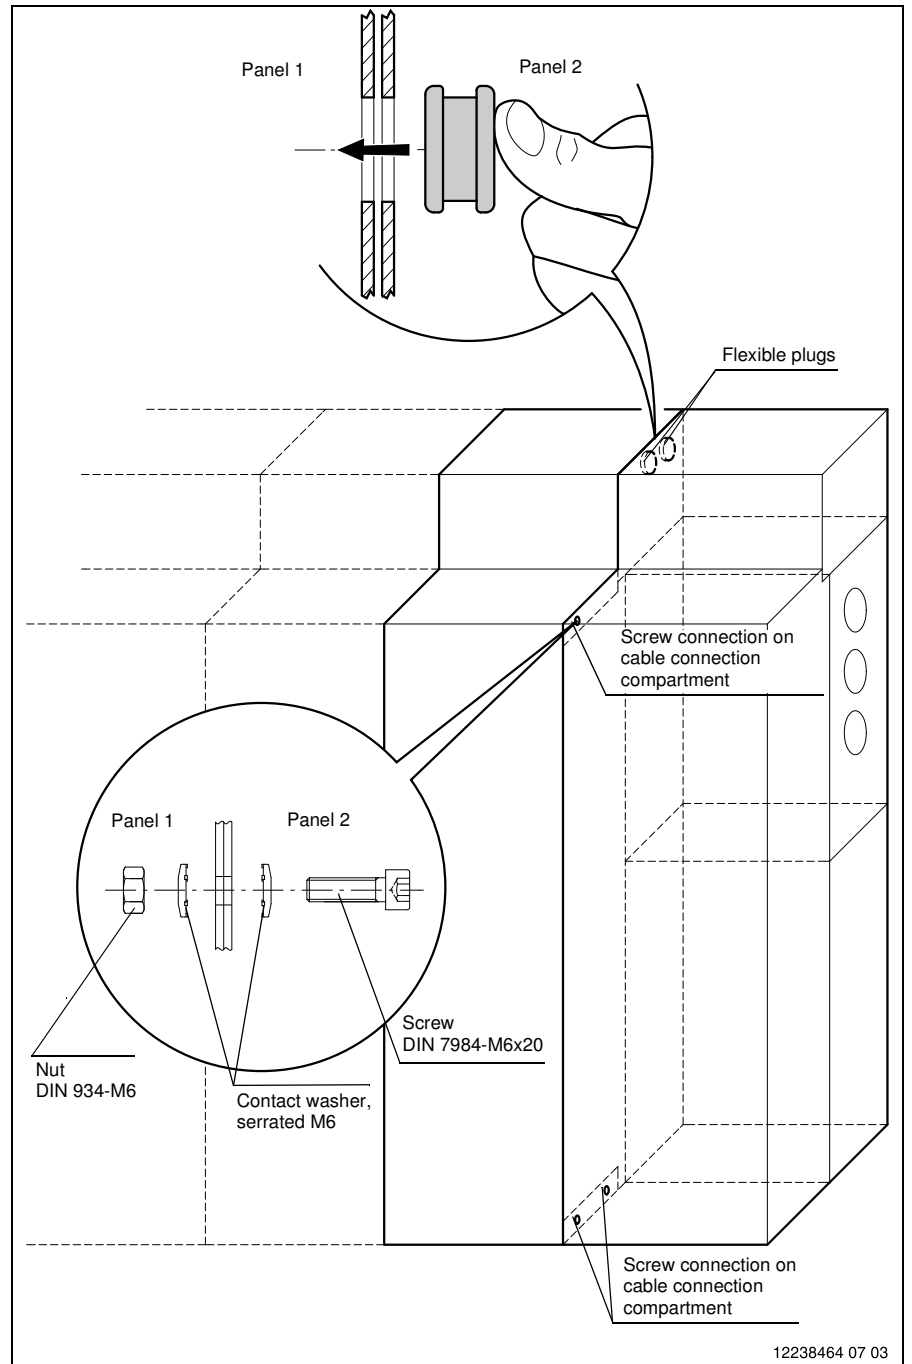

Fig. 33
**16.** As a protection against dust and moisture, close the bores for cable bushings in the adjoined side walls of the operator covers with flexible plugs. Thereby use one plug each for two adjoining openings (Fig. 33).
**17.** Connect the adjacent side walls of the cable connection compartment of panels 1 and 2 according to Fig. 33.